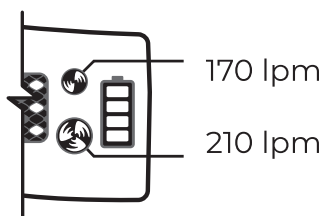

fig.11a
- Two indicator lights on the display (see Fig. 11a): Low speed - 170 lpm; High speed - 210 lpm.